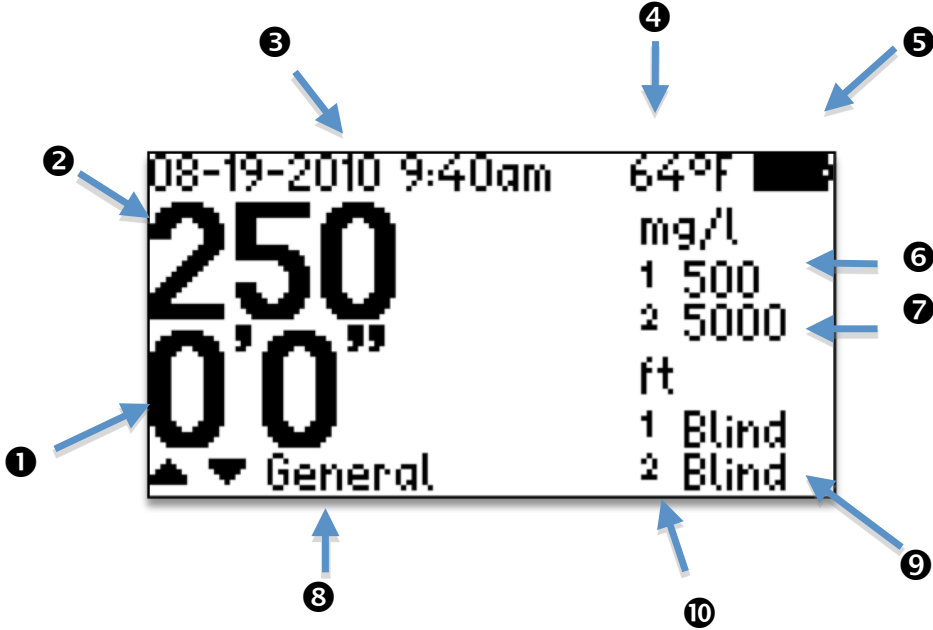

fig 6
At start up, the display is shown in fig 6 and description in fig 7. Measured concentration is displayed on the left and alarm values for Threshold 1 (6) and Threshold 2 (7). General information like time, date and temperature will always be displayed in the top left side of the screen. Different sensors attached to the hand unit will display different information on the display. The screen shoot below is showing an attached Blanko sensor.